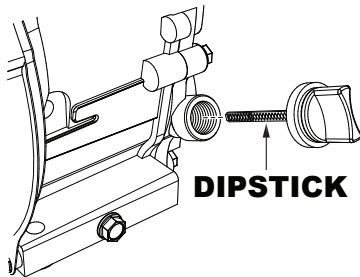

Figure 5. Engine Oil Dipstick
2. Remove the engine oil dipstick from the oil filler hole (Figure 5) and wipe it clean.